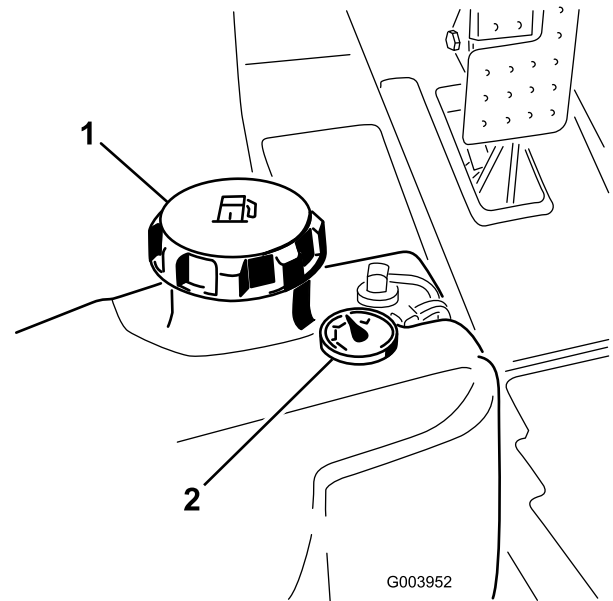

Figure 36
3. Remove cap from the fuel tank (Figure 36).